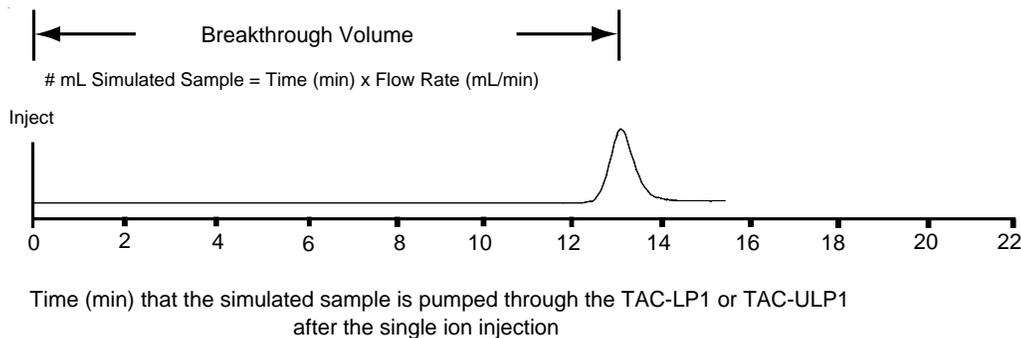

Figure 6
- F. Record the resulting chromatogram and calculate the breakthrough volume, as shown in Figure 6, "Typical Data Obtained in the Determination of the Breakthrough Volume."